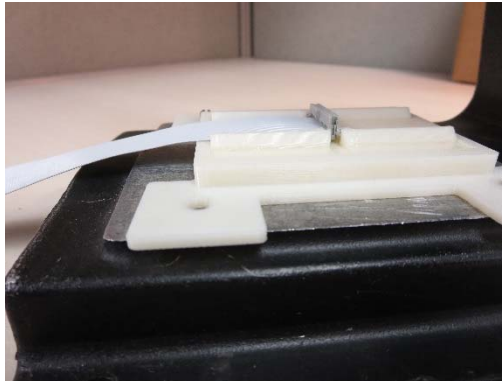

Figure 8
- 5.1 Place the socket connector onto the cover over the cable, verifying the pin 1 indicator is in the correct position. (See Figure 8)